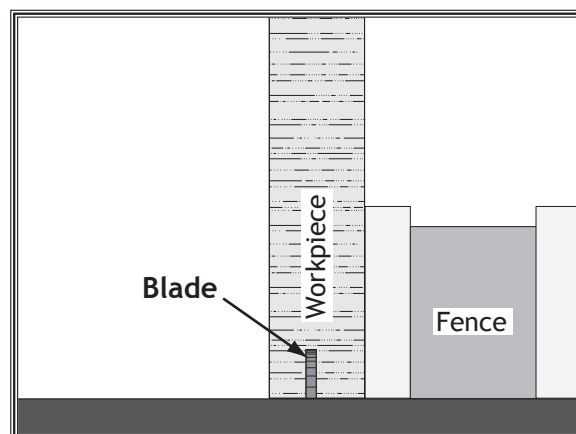

Figure 90. First rabbet cut with a single blade.
5. Adjust the fence so the blade is aligned with the inside of your rabbet channel, as shown in **Figure 90**.